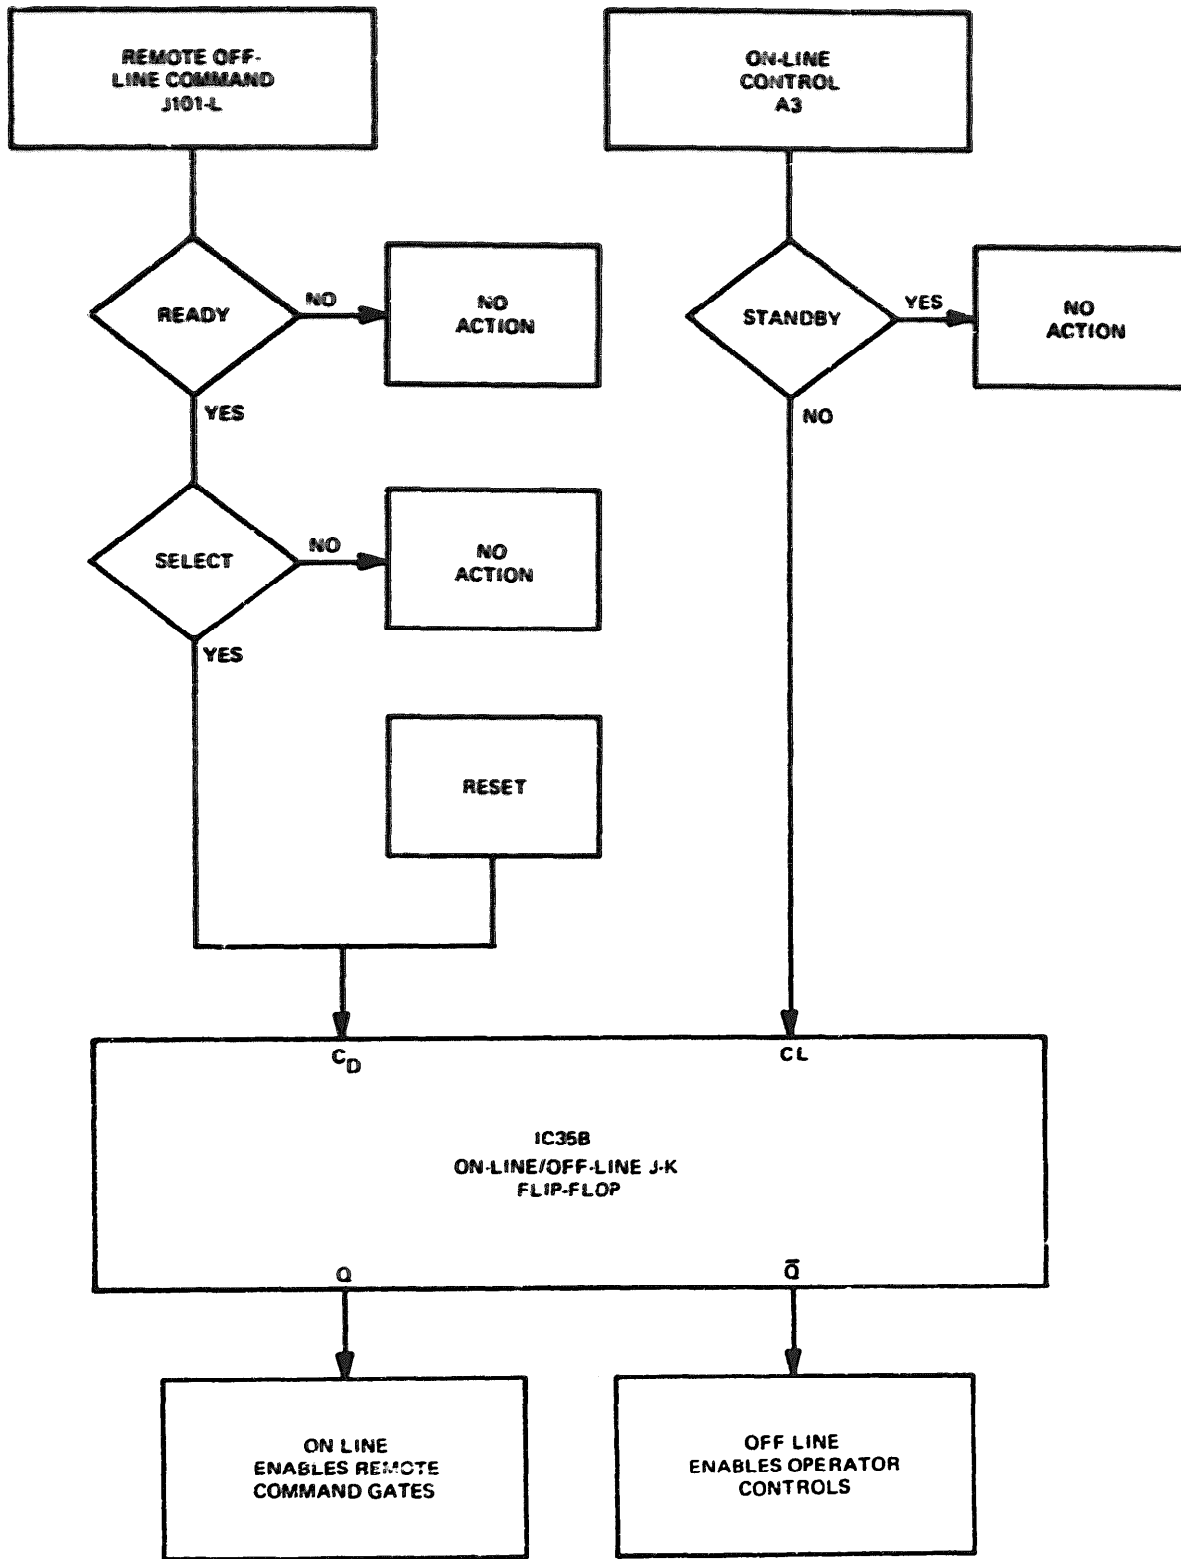

Figure 4-15. Local/Remote Operation Flow Chart.
- 4-71. The state decoder's digital 4 input is a binary one during rewind. This is accomplished by holding two of the inputs to IC29C high and switching the rewind input low. All inputs to IC38A and IC29A are held high which results in a binary zero being presented to the state decoder's digital 2 and digital 1 inputs. This binary code (100) represents the rewind state.
- 4-78. There are two methods for commanding transport operation. The Off-Line mode, in which transport operation is controlled manually by means of the front panel controls, and the On-Line mode, in which the transport is controlled by computer-generated signals. A J-K flip-flop, IC35B, determines the On-Line status of the transport. See Figure 4-15.